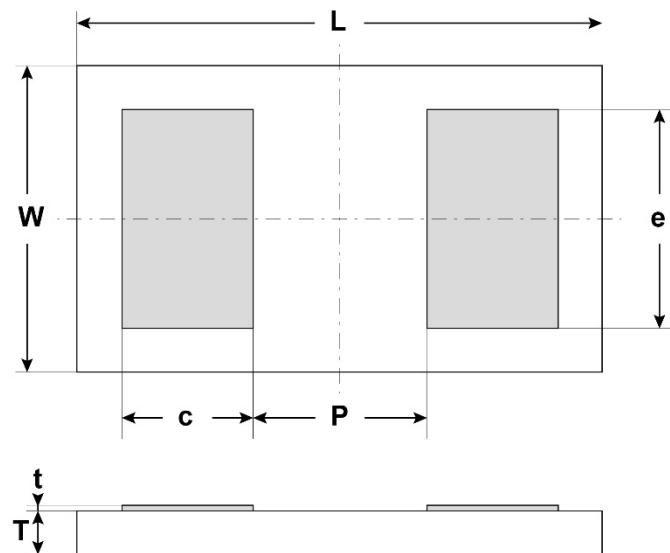

Figure 7 - Package isometric view
(1) Other film frame carriers are possible on request
(2) ENIG : 0.1µm Au / 5µm Ni
(3) missing capacitors can reach 0.5%
(4) refer to figure 7